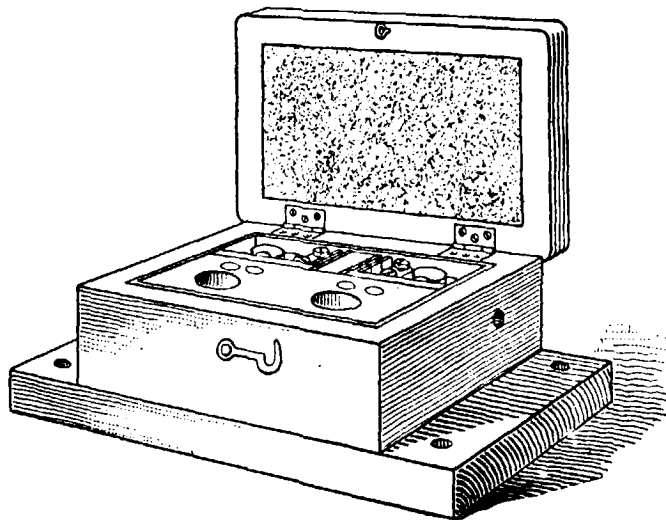
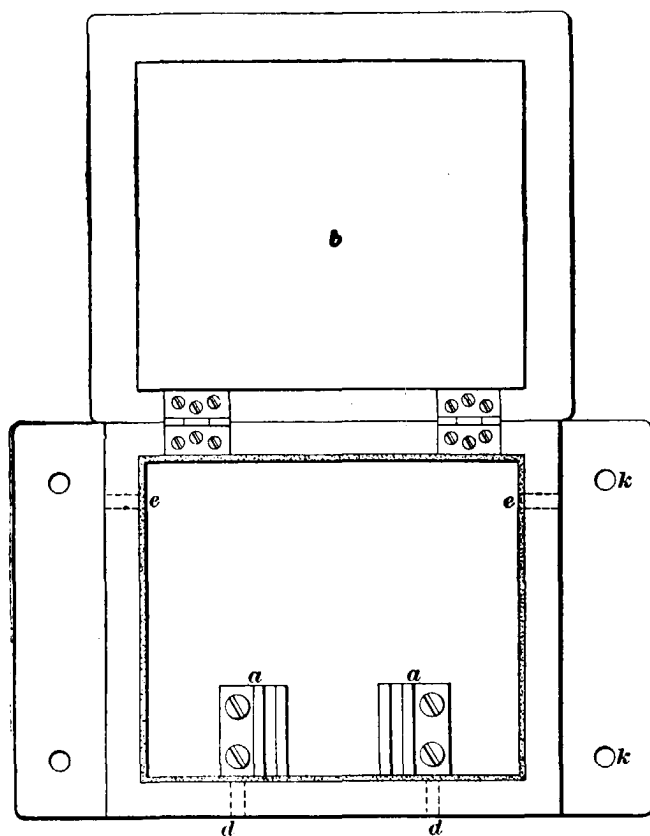

FIG. 19.
FIG. 20.
18. The Westinghouse Fuse Box.—Fig. 19 shows a perspective view of a Westinghouse car fuse box and Figs. 20 and 21 show how the removable block that takes the fuse wire is constructed.
Fig. 20 shows the fuse box with the lid open; *a, a* are the two castings that receive the two ends of the trunk wiring through